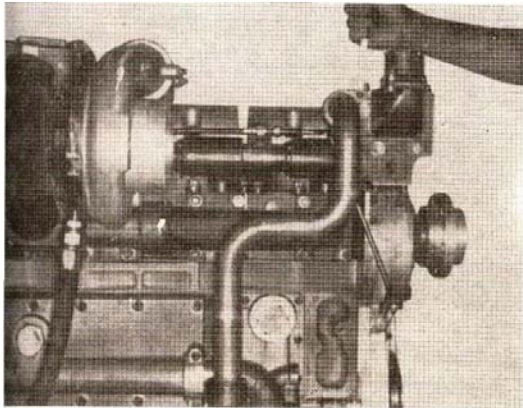

Fig. 14-94. Install the by-pass tube assembly
5. Use a new gasket, hose and O-ring lubricated with clean engine lubricating oil. Put the water by-pass tube to the thermostat housing and the water pump as shown in Fig. 14-94.